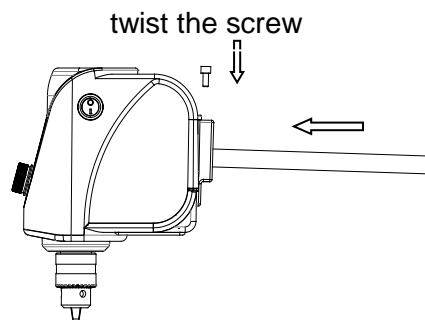

Figure 4
4. Attach the bar to the main instrument, twist the screw from above to attach the bar to the main instrument (refer to figure 4).